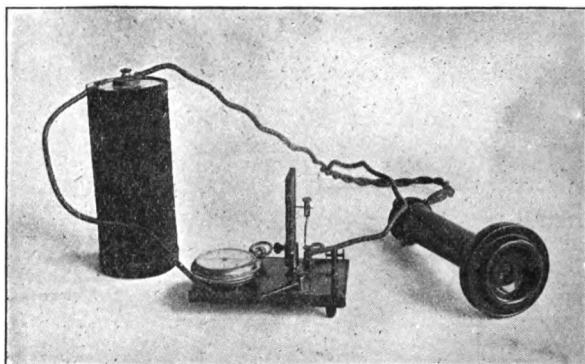

FIG. 223.—MICROPHONE
**250. Microphone Transmitter.** Figure 223 represents a piece of apparatus called a *microphone*. It consists of a wooden